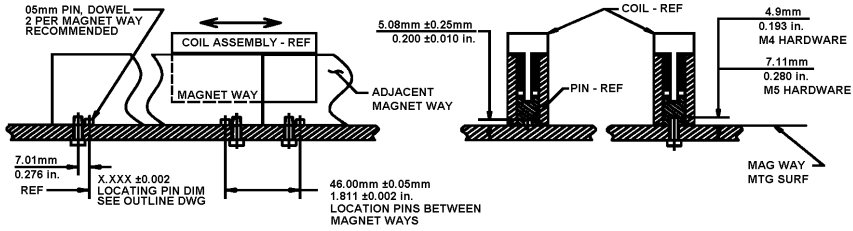

Figure 4 Typical Bottom Mounting Installation Diagram
*The stage should be designed to center the coil in the magnet way with provisions for adjustment in order to maintain proper coil to magnet clearance. The relationship of the moving coil relative to the stationary magnet way is critical. The magnet way-mounting surface should be parallel within 0.005 in TIR with respect to the coil/slide travel. Regardless of the motor mounting configuration (bottom or side mount), the required setup gap is required between the coil surface and the magnet face surface. (See the Figure 3 Ironless Motor Installation Diagram, Figure 4 Typical Bottom Mounting Installation Diagram and Figure 5 Typical Side Mounting Installation Diagram.)*
3. Install the magnet ways using two 5 mm locational dowels (recommended). (**See Figure 3 Ironless Motor Installation Diagram, Figure 4 Typical Bottom Mounting Installation Diagram and Figure 5 Typical Side Mounting Installation Diagram**). Two pins are required per magnet way. For pin location dimensions, see the magnet way outline drawing. Pin location between magnet ways is  $1.811 \pm 0.002$  in for all magnet way lengths.